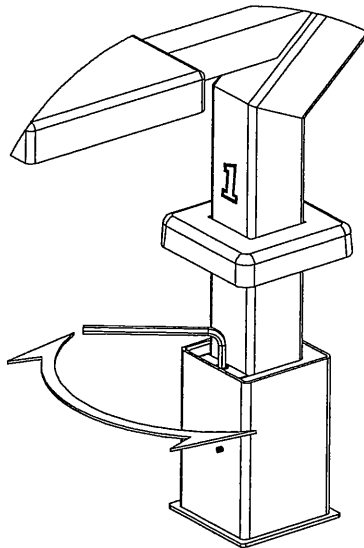

FIGURE 4
1. Loosen bolt using a 1/4" ALLEN wrench, turning wrench in a counter-clockwise direction as seen from looking down. See **FIGURE 4**.
6. To remove starting platform, lift escutcheon, insert ALLEN wrench into anchor bolt and turn counter-clockwise two (2) full turns. Lift and remove starting platform. **DO NOT** continue to loosen anchor bolt or remove anchor bolt for any reason.